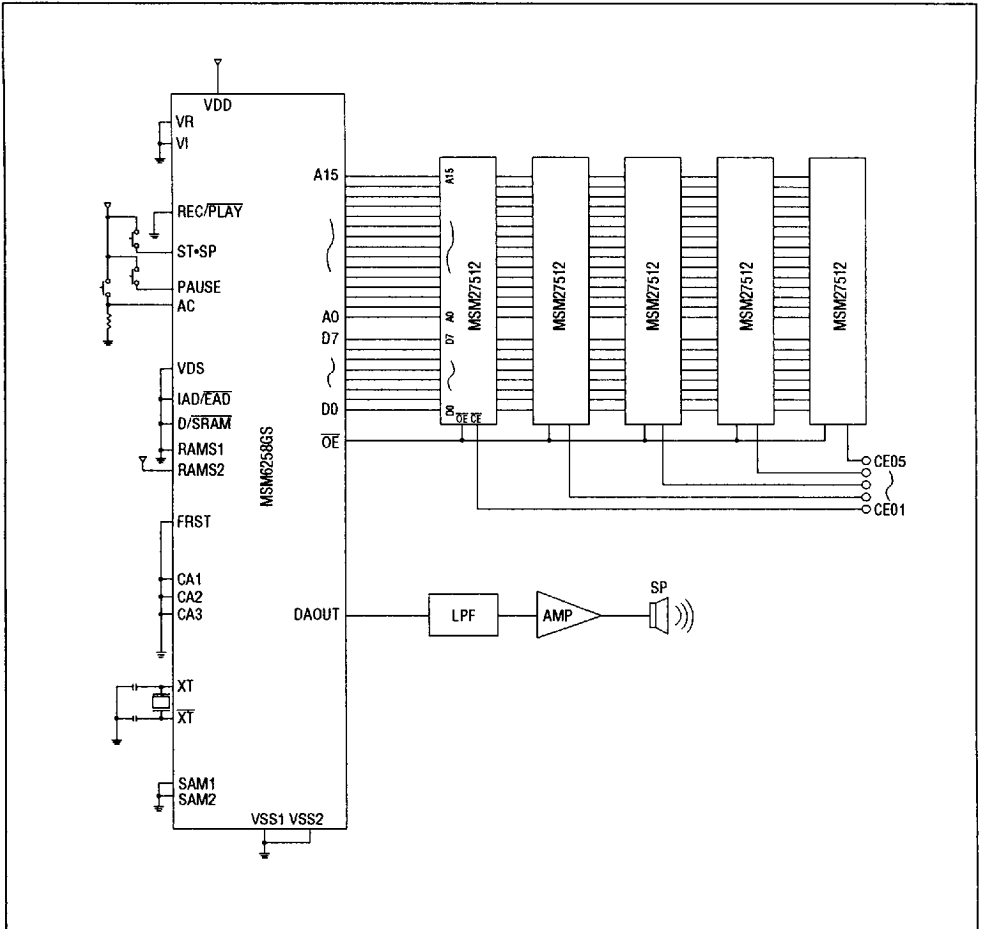

Figure 29 Application Note for 512K EPROM (Address is binary output)
- Figure 29 shows an example of interface with 512K EPROM.